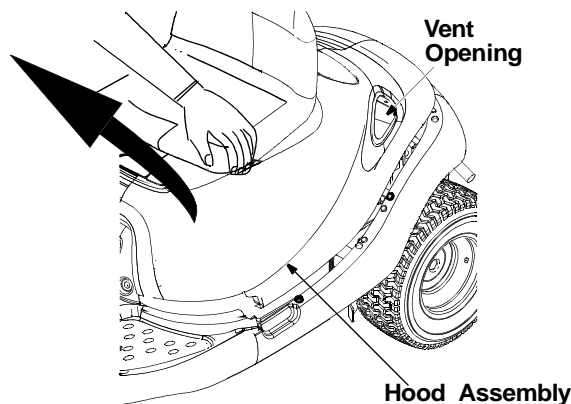

Figure 2
- To access the battery, lift the hood assembly from the left side of the seat only. Stand on the right side of the unit and pivot the hood assembly towards you until fully opened. See Figure 2 .